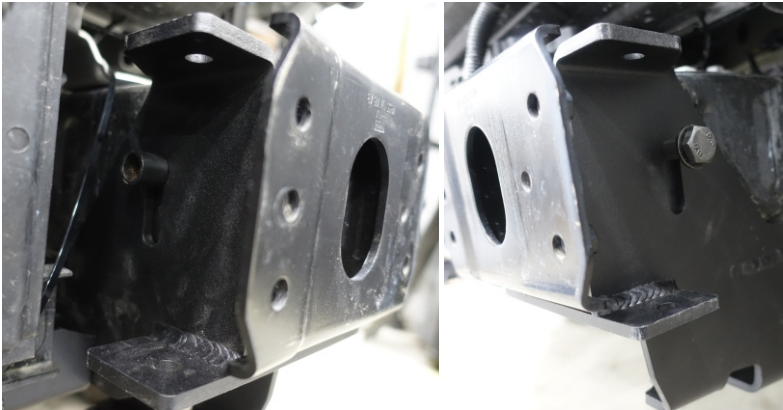

Fig.27
27. Secure reinforcing bracket (item 15) on the left side of the frame using bolt M12x110, washers M12, spacer and nut M12 (items B4, H4, S, E5) (fig.27).